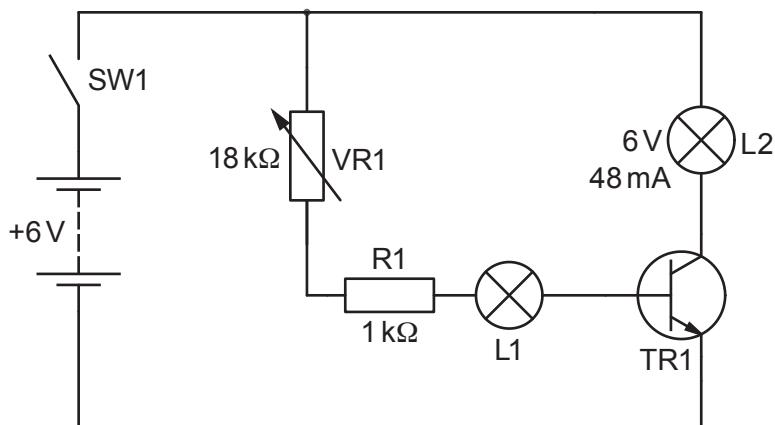

Fig. 12.2
- (b) Fig. 12.2 shows a circuit that uses an NPN transistor to amplify current.
Calculate the gain provided by TR1 in the circuit in Fig. 12.2.